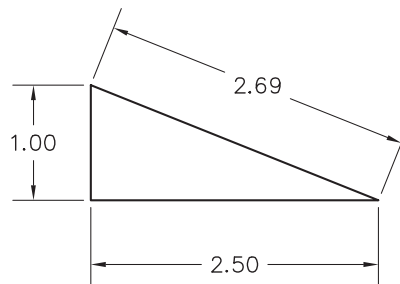

Fig. 12-5
1. Draw the triangle shown in Fig. 12-5. Turn the grid off and use a snap spacing of .25.